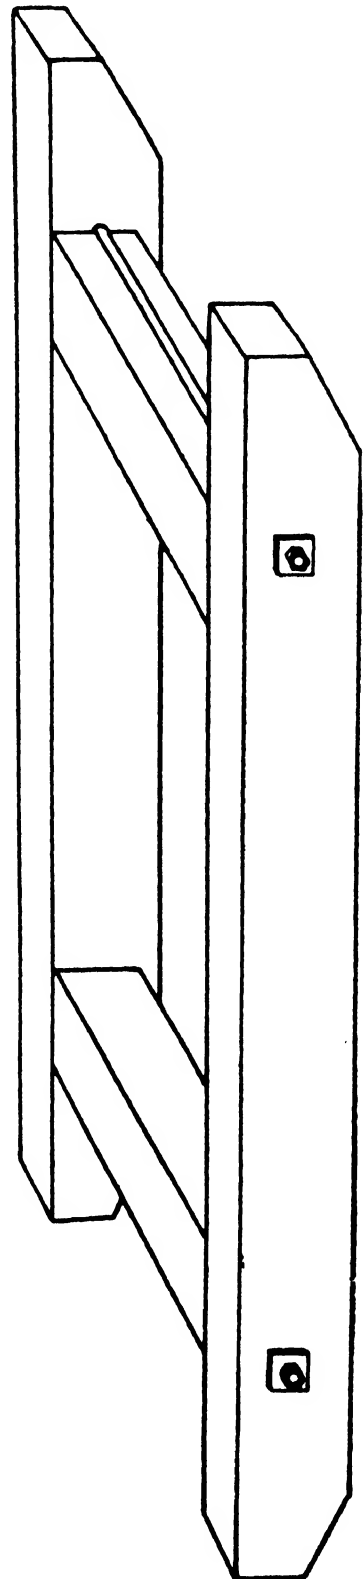

FIG. 38.—A Wooden Cradle.
**The Cradle.**—The sketch (Fig. 38) shows a timber cradle of simple design. Strong and serviceable for heavy vessels such as are common in chemical works, and for bulky articles of irregular shapes, a cradle is well worth the capital outlay. It is made of baulks of suitable strength, say 8 in. to 9 in. sq., and about 7 or 8 ft. long. The ends are seen bevelled off to give a lead on to the rollers as it reaches them. Two tie bolts firmly brace the sides, which are morticed to the sleepers.